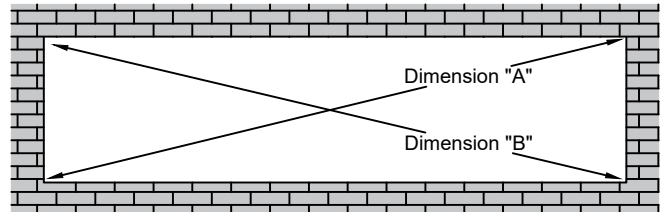

Fig.23.1
- A. Make sure the opening is square and plumb. Measure each diagonal of the opening. **SEE Fig.23.1.**